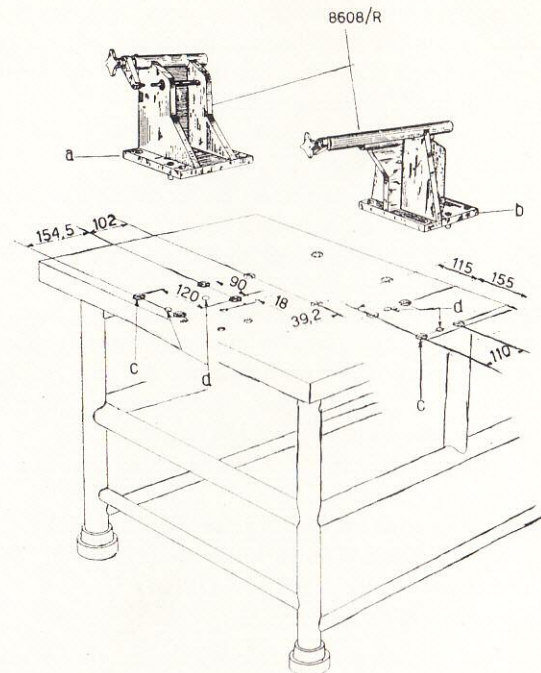

Fig. 102.
- (a) Replace the standard engine bracket with the unit 8608/3 consisting of two separate brackets ("a" and "b" in Fig. 102). Mount the 125 engine on said brackets. The bracket "a" is not used for testing other engines; it can, however, remain on the stand.
- (c) Dealers who have already the old test stand 8002/R shall order the unit 8608/R, then drill and tap the eight holes "c" on the stand as shown in Fig. 102; mount brackets "a" and "b" on the stand (with an engine on them) and secure with bolts, finger tight. Find the right position where to secure the brackets firmly. Tighten the bolts, remove engine and drill four holes "d" for the centralizing pins.